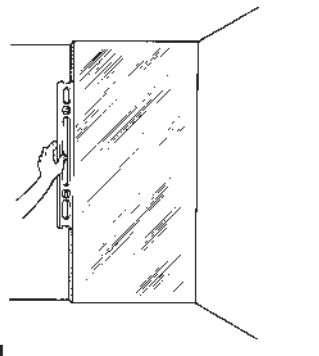

Figure 1
- When installing THERMAX Sheathing, boards must be fitted tightly together vertically and at right angles (90 degrees). See Figure 1. End-joint gaps greater than 1/8" should be filled with spray foam such as GREAT STUFF™ Gaps & Cracks sealant or equivalent to keep a continuous air infiltration barrier and to help ensure maximum thermal efficiency across the board joints.